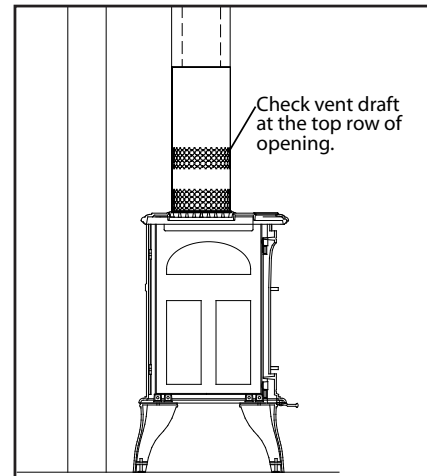

Figure 48: Draft test place.
4. After a minimum of 10 minutes operation, test the chimney draft with a smoke match at the top row of the pattern to confirm that there is adequate draft or 'pull' at the openings around the body of the Drafhhood Adaptor, as shown in Figure 48.
2. Place the log set into the firebox. Locate each log by seating it down onto the burner tray support pins. Follow Figures 48 to 54 proper log placement.